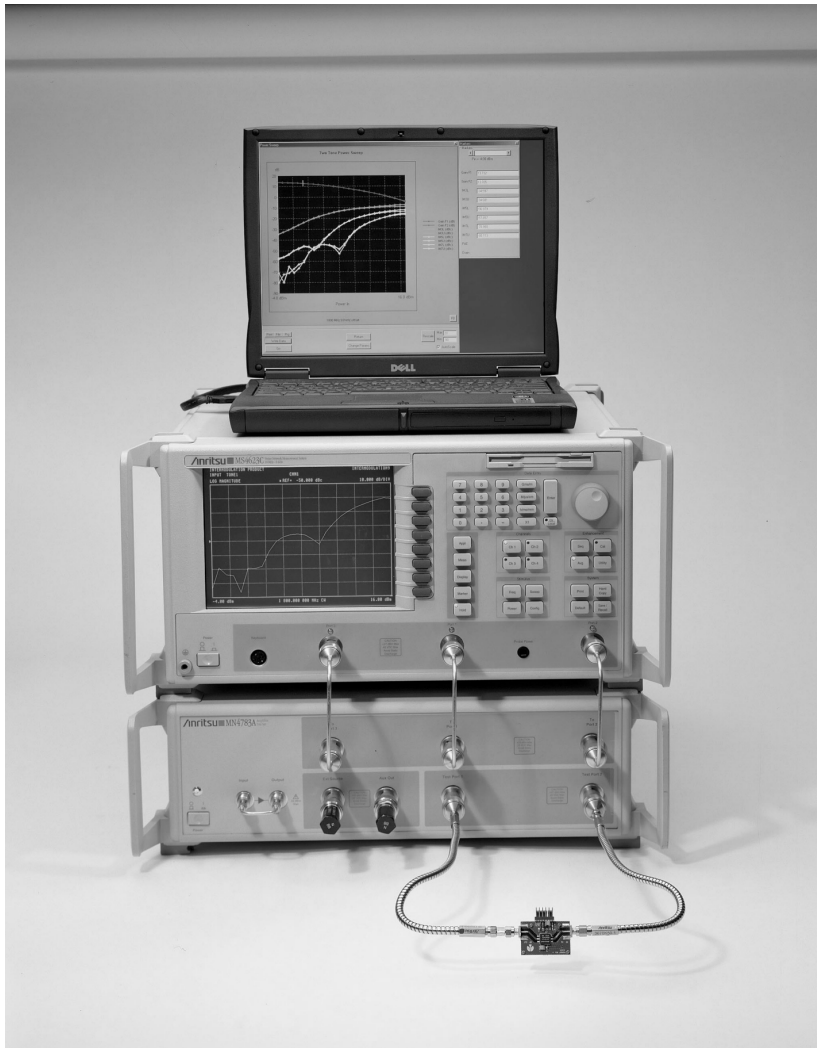
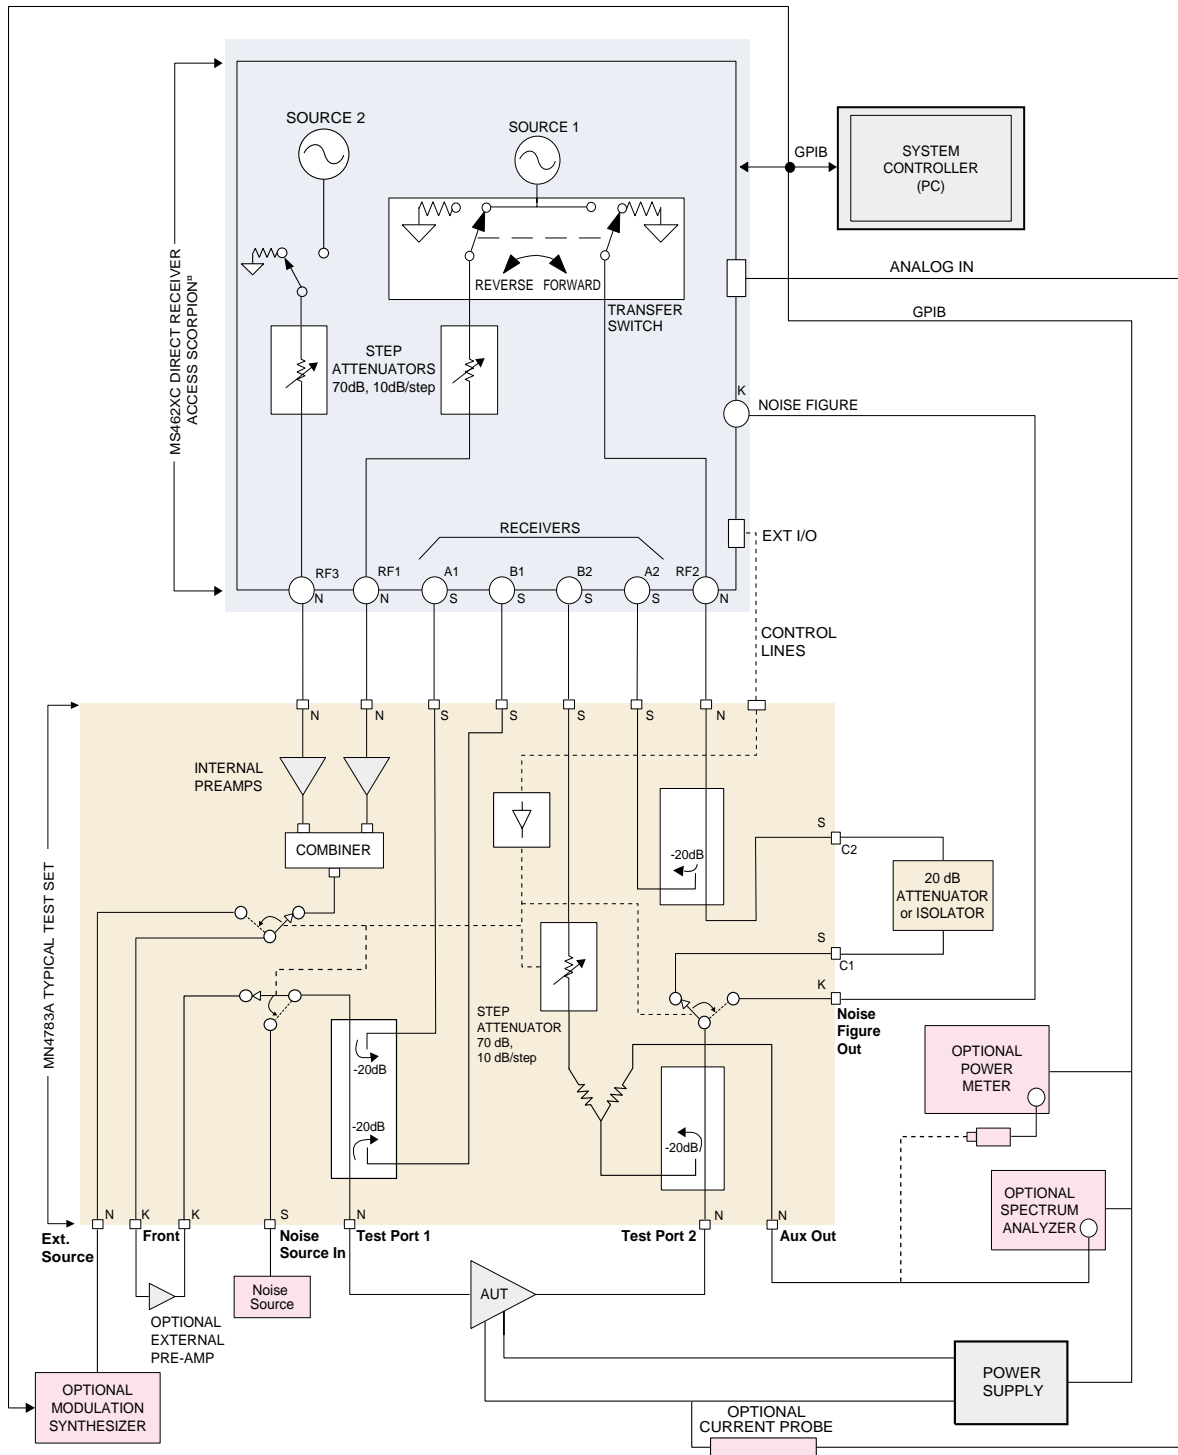

Figure 1-1. Model ME7840/4 Power Amplifier Test System, Handset Configuration.
Figure 1-2. Overall Functional Block Diagram of the ME7840/4 Power Amplifier Test System, Handset Configuration with the MN4783A Test Set.
This manual provides general information, installation, operating, and maintenance information for the Anritsu Model ME7840/4 Power Amplifier Test System, Handset Configuration (Figure 1-1). Manual organization is shown in the table of contents. The following topics are discussed:
The ME7840/4 hardware (Figure 1-1) consists of a MS4623C Direct Receiver Access (DRA) Scorpion®, a MN4783A test set, a customer supplied Personal Computer (PC), and an optional current probe (refer to Chapter 2, Figure 2-4). A block diagram of the ME7840/4 test system is shown in Figure 1-2 on the following page. General test set specifications appear below.
In the MN4783A test set, the attenuator (or isolator) is external as shown in Figure 1-2 (page 1-6). In selecting an external isolator (alternatively, a circulator with a termination on the unused port may be used), the following criteria should be followed: